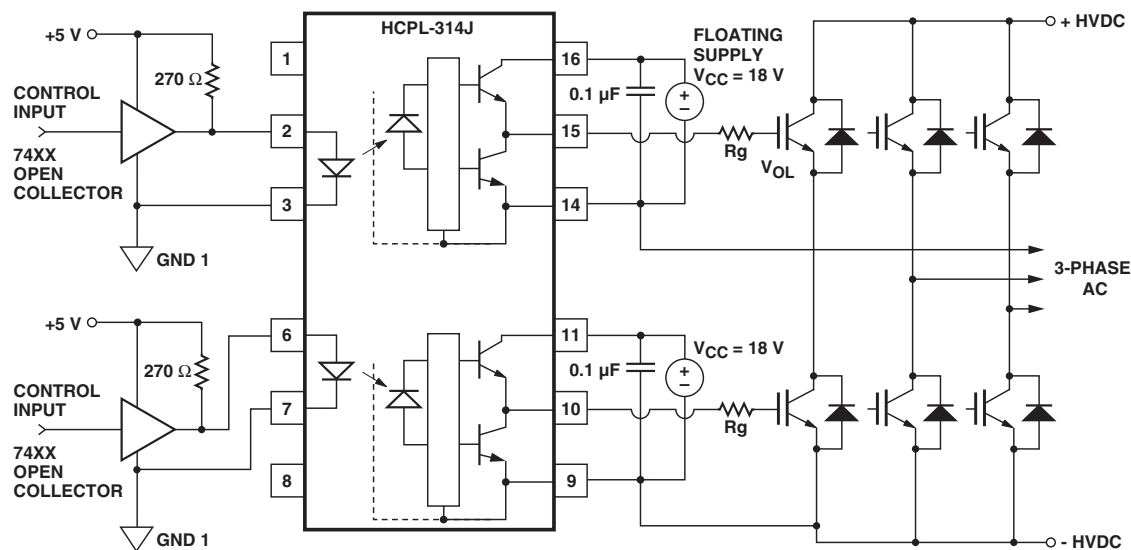
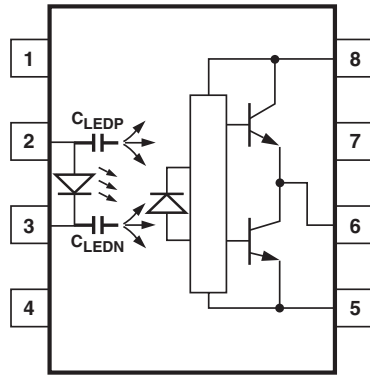
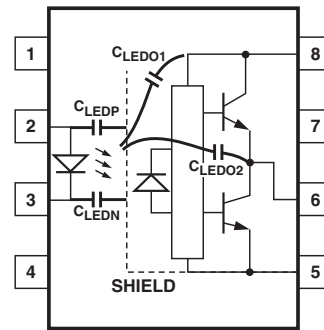
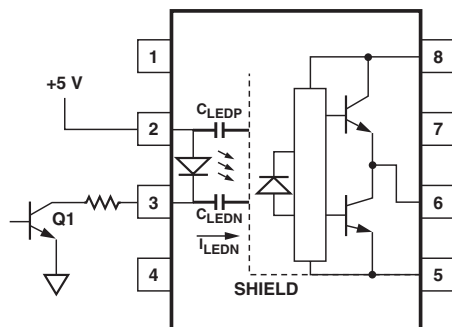

Figure 19. Recommended LED Drive and Application Circuit for HCPL-314J.
Figure 21. Optocoupler Input to Output Capacitance Model for Unshielded Optocouplers.
Figure 22. Optocoupler Input to Output Capacitance Model for Shielded Optocouplers.
Figure 24. Not Recommended Open Collector Drive Circuit.
To keep the IGBT firmly off, the HCPL-314J has a very low maximum V_{OL} specification of 1.0 V. Minimizing R_g and the lead inductance from the HCPL-314J to the IGBT gate and emitter (possibly by mounting the HCPL-314J on a small PC board directly above the IGBT) can eliminate the need for negative IGBT gate drive in many applications as shown in Figure 19. Care should be taken with such a PC board design to avoid routing the IGBT collector or emitter traces close to the HCPL-314J input as this can result in unwanted coupling of transient signals into
the input of HCPL-314J and degrade performance. (If the IGBT drain must be routed near the HCPL-314J input, then the LED should be reverse biased when in the off state, to prevent the transient signals coupled from the IGBT drain from turning on the HCPL-314J.) An external clamp diode may be connected between pins 14 & 15 and pins 9 & 10 (as shown in Figure 19) for the protection of HCPL-314J in the case of IGBTs switching inductive load.
Step 1: Calculate Rg minimum from the IOL peak specification. The IGBT and Rg in Figure 24 can be analyzed as a simple RC circuit with a voltage supplied by the HCPL-314J.
where $KICC \bullet Qg \bullet f$ is the increase in ICC due to switching and KICC is a constant of 0.001 mA/(nC*kHz). For the circuit in Figure 19 with IF (worst case) = 10 mA, Rg = 32 Ω, Max Duty Cycle = 80%, Qg = 100 nC, f = 20 kHz and TAMAX = 85°C:
Without a detector shield, the dominant cause of optocoupler CMR failure is capacitive coupling from the input side of the optocoupler, through the package, to the detector IC as shown in Figure 21. The HCPL-314J improves CMR performance by using a detector IC with an optically transparent Faraday shield, which diverts the capacitively coupled current away from the sensitive IC circuitry. However, this shield does not eliminate the capacitive coupling between the LED and optocoupler pins 5-8 as shown in Figure 22. This capacitive coupling causes perturbations in the LED current during common mode transients and becomes the major source of CMR failures for a shielded optocoupler. The main design objective of a high CMR LED drive circuit becomes keeping the LED in the proper state (on or off) during common mode transients. For example, the recommended application circuit (Figure 19), can achieve 10 kV/μs CMR while minimizing component complexity.
The open collector drive circuit, shown in Figure 24, can not keep the LED off during a $+dV_{CM}/dt$ transient, since all the current flowing through C_{LEDN} must be supplied by the LED, and it is not recommended for applications requiring ultra high CMR₁ performance. The alternative drive circuit which like the recommended application circuit (Figure 19), does achieve ultra high CMR performance by shunting the LED in the off state.